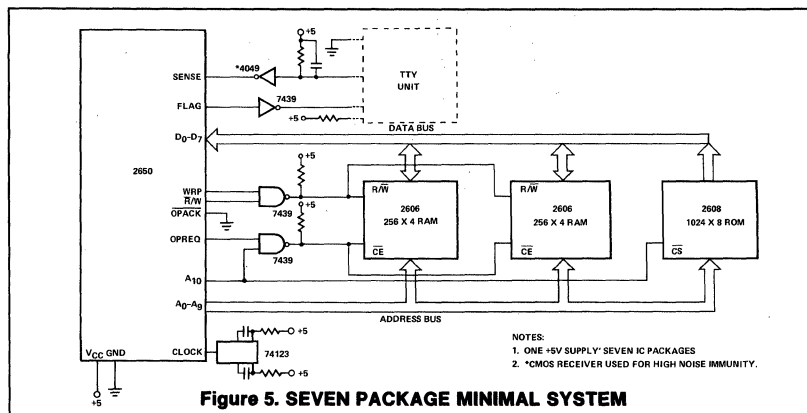

Figure 5. SEVEN PACKAGE MINIMAL SYSTEM
The 2650 has been designed for low cost, easy interfacing, which is dramatically illustrated by a minimal system configuration shown in Figure 5. This system has a Teletype interface, 1024 bytes of ROM, and 256 bytes of RAM, yet requires only seven (7) standard integrated circuit packages. The ROM can contain a bootstrap loader and I/O driver programs for the Teletype. Other programs could reside in ROM or be read into RAM via the Teletype. An alternative to the 2608 N-Channel MOS ROM is the 82S115 Bipolar PROM which offers a 512 X 8 organization. Only one +5-volt power supply is required for this system. The advantages of conceptual simplicity and minimum system costs of the 2650 approach will be obvious to the system designer, particularly when compared to alternative microprocessor products.